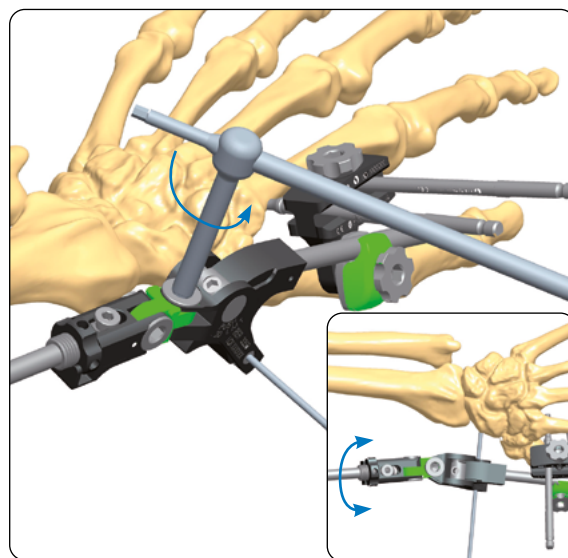

Fig. 17
- Loosen the ML Locking Screw of the central joint (**Fig. 17**)